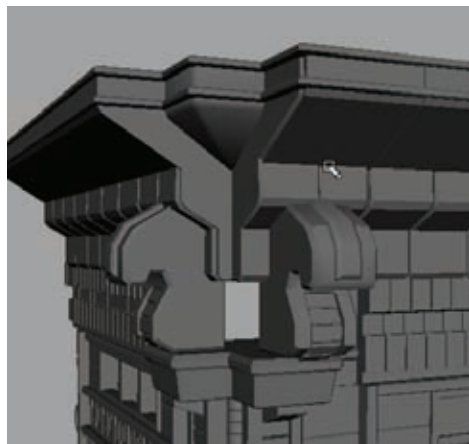

Figure 5.37
10. Remember the cube that sits within the gap from step 5? It's time to finish that bit. Select the bottom face of the cube and extrude it down to be even with the next section of the ledge. Scale this new extrusion inward to match the angle of the ledge. Once that is done, bevel the edges to round off the corners. You should have something like what you see in Figure 5.37.